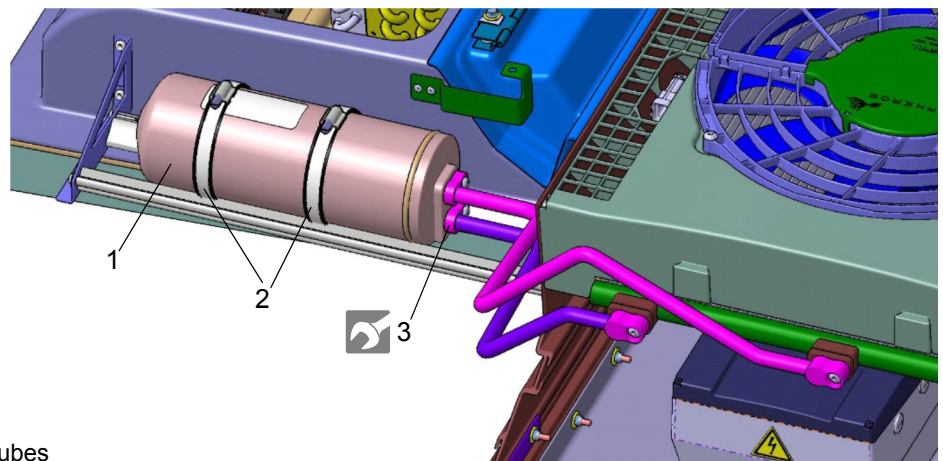

Fig. 904
- Disconnect electrical connection to the housing (1, Fig. 904)
- Loosen side holders of the housing (2).